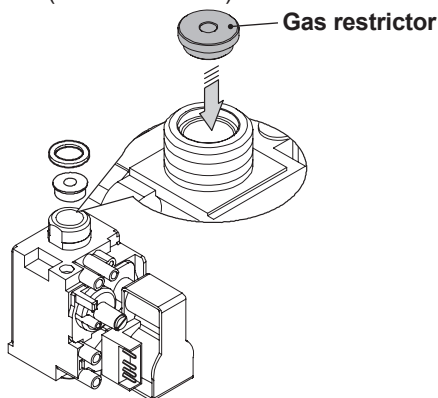

Fig. 8.2
- Carry out gas conversion by correctly replacing the gas restrictor (Fig. 8.2), refer-